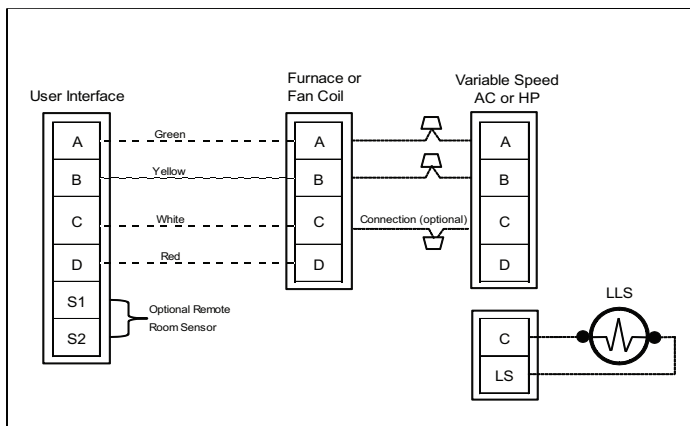
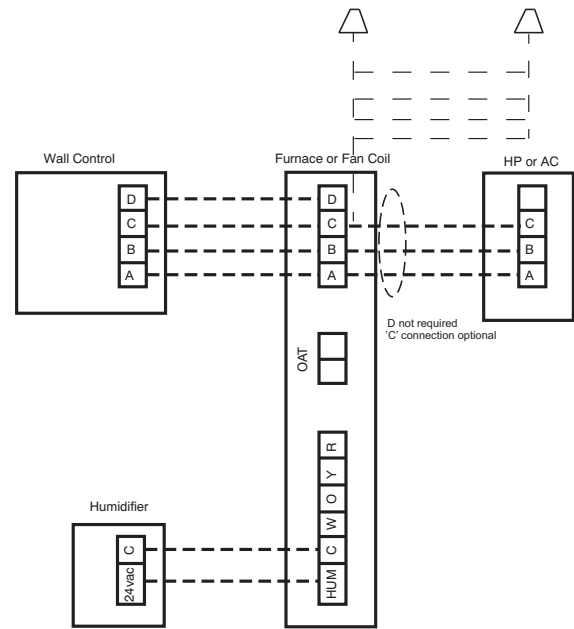

Fig. 3 – Liquid Line Solenoid Electrical Connection (Required for long line applications)
Fig. 4 – Evolution Furnace or Fan Coil Wiring with Communicating Variable Speed AC
Make the necessary electrical connections as shown in Fig. 3 and Fig. 4 and by following the Installation Instructions included with accessory kit.
Connect to Evolution connections. Only two wires (AB) to Evolution capable indoor unit (furnace or fan coil) is required. Typical 4 wire (ABCD) may be connected (see Fig. 4)